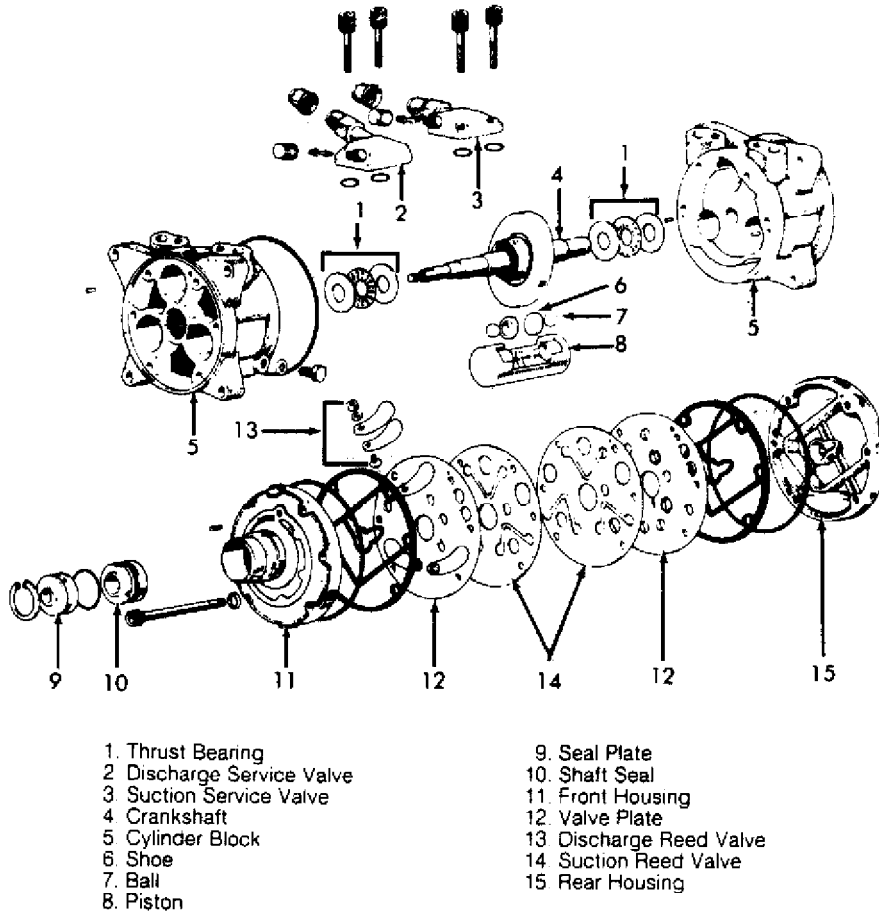

Fig. 12: Nippondenso 6-Cylinder Compressor
- 5) Remove 6 through bolts from front head of compressor and discard washers. Tap head loose from compressor, being careful not to scratch sealing surfaces. Remove snap ring (if equipped) from front housing. Press seal plate out. Remove seal from shaft. See Fig. 12.